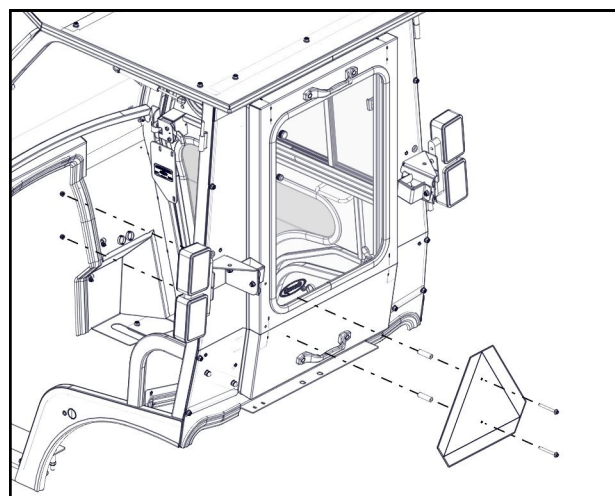

Fig. 25.1 (SMV Sign Installation)
**25.1** Start by removing the (2) plastic hole plugs that came installed in the rear panel. Re-install SMV sign onto the removable rear panel using the provided (2) spacers, 1/4-20 bolts and flange nuts. See Fig 25.1.